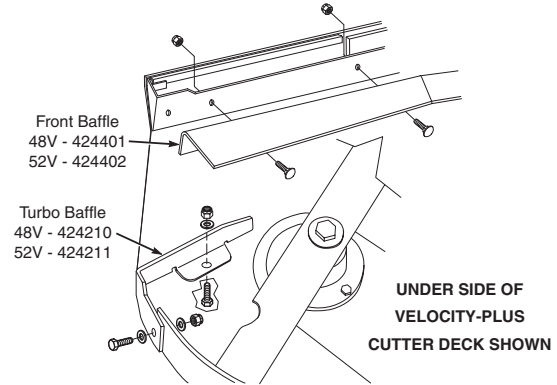

FIGURE 3-2
5. Remove the "Custom-Cut" and "Turbo" baffles from the cutter deck. Using the original hardware, install the new "Front" and "Turbo" baffles. See Figure 3-2.